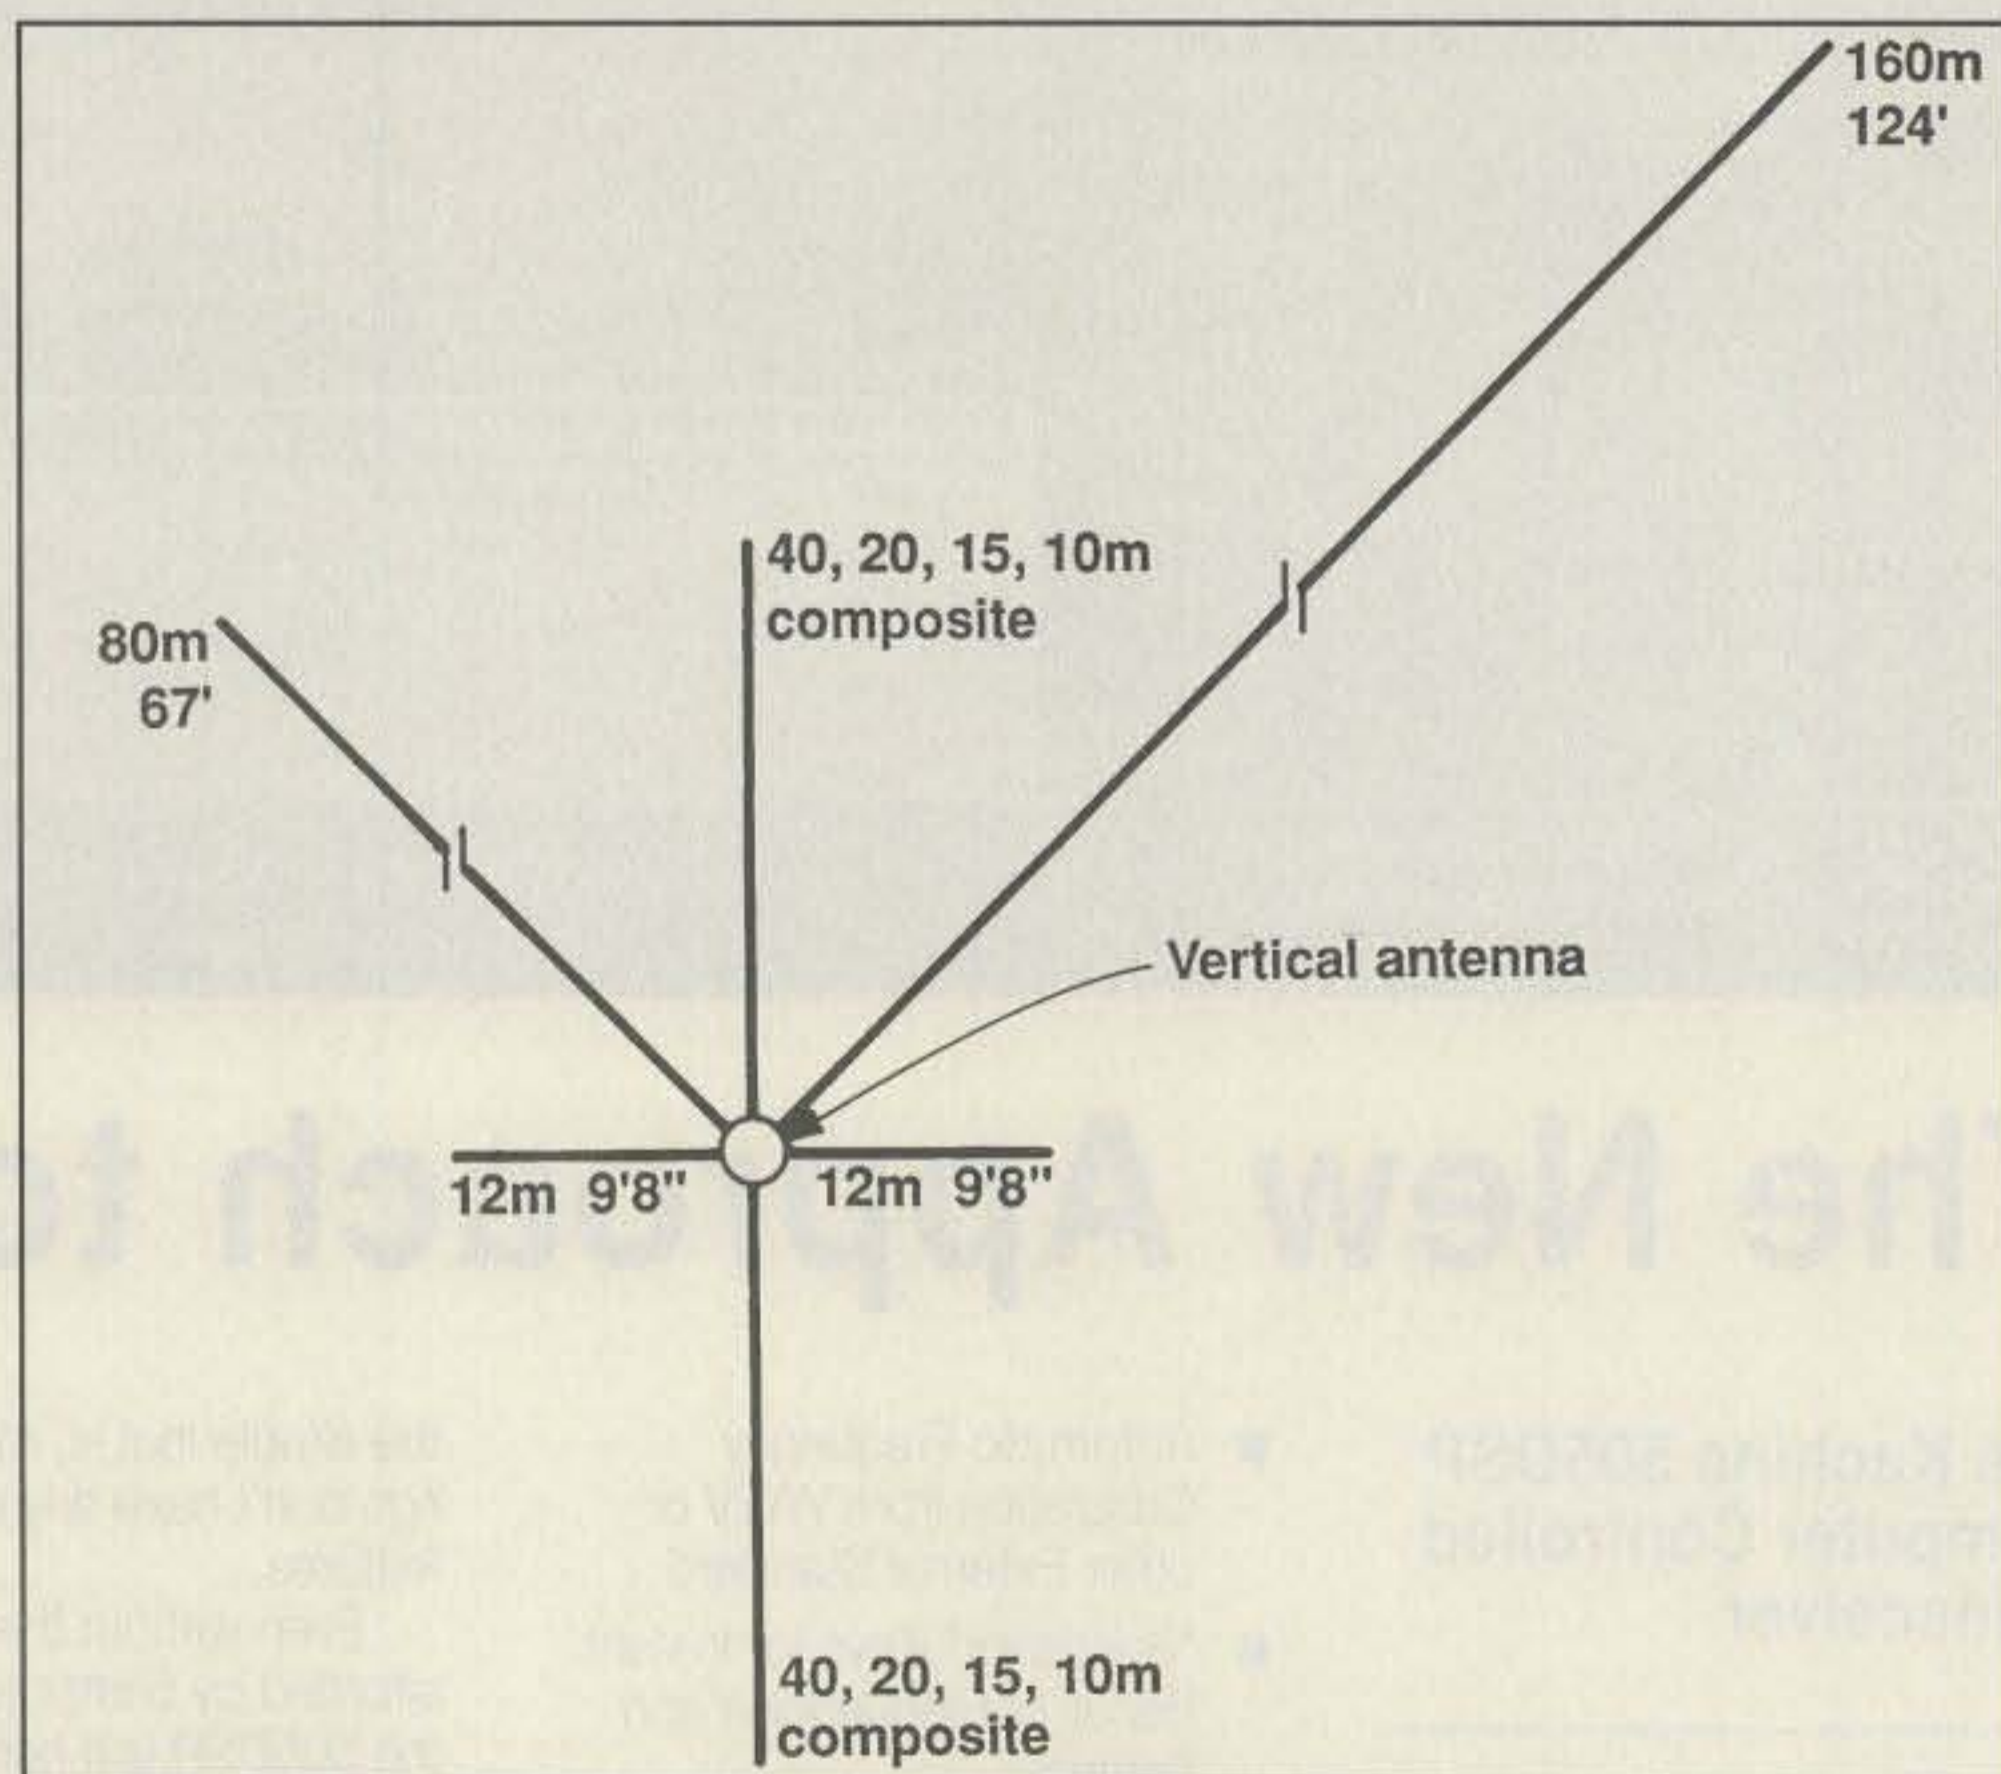

Fig. 1—The overall plan for the all-band counterpoise.
- For 160 and 80 meters I use *one* radial each. This is a variation on the old "1/4 wave up and 1/4 wave out," popular back in the 1920s. It worked well then and works well now. (See figs. 1 and 2.)
When installing the counterpoise elements, space them as far apart as practicable (see fig. 1). If they are too close together they will couple with unpredictable results. I originally suspended the 12 meter wires beneath the ladderline elements, and could not achieve 15 meter resonance on the antenna! Rotating the 12 meter elements 90 degrees solved the problem.